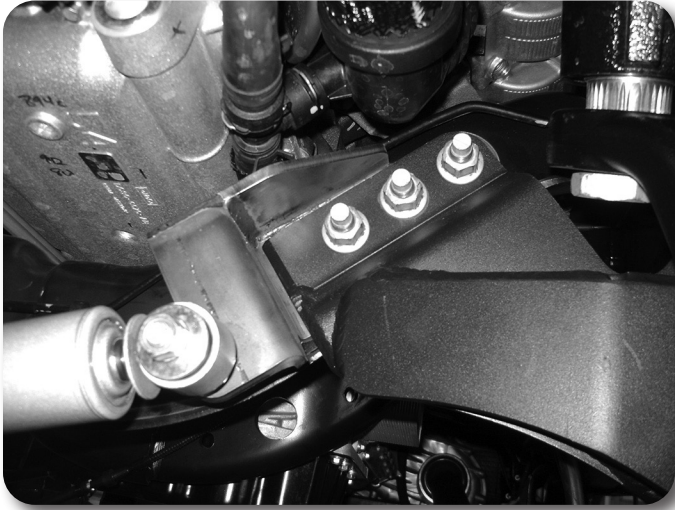

Figure 7A
17. Install the new track bar bracket using the stock mounting hardware as it was removed **Figure 7A, 7B**. Torque all (5) mounting bolts to 129 ft-lbs. Do not install track bar at this time, it will be installed once the vehicle is on the ground.